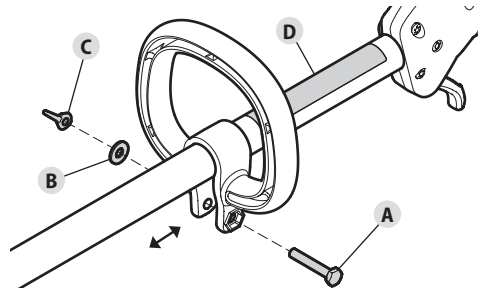

Fig. 9
2. Insert the bolt (Fig. 9-A) into the hex bolt hole and push it through. Place the washer (Fig. 9-B) onto the bolt. Screw the wing nut (Fig. 9-C) onto the bolt, but do not tighten the wing nut completely.
3. Hold the unit in the operating position (Fig. 16). Move the handle up or down the upper shaft housing to a comfortable location. Make sure the handle is positioned beyond the end of the safety label (Fig. 9-D).
1. Loosen the wing nut (Fig. 9-C).
2. Hold the unit in the operating position (Fig. 16). Move the handle up or down the upper shaft housing to a comfortable location. Make sure the handle is positioned beyond the end of the safety label (Fig. 9-D).